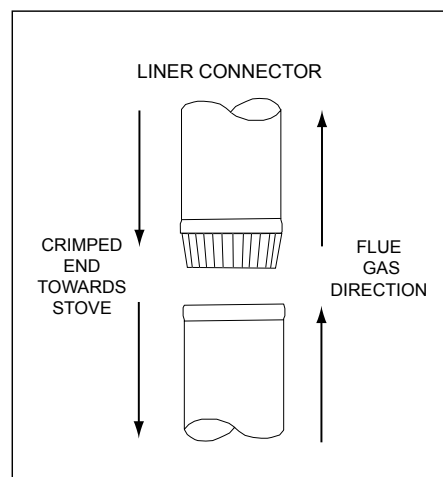

Figure 5B
**BEST:** A complete relining of the chimney system with a 6 inch (152mm) diameter listed, stainless liner. Required for factory-built fireplace installations in Canada, recommended in USA. The sections must be attached to the insert and to each other with the crimped (male) end pointing toward the insert. See **Figure 5B**. All joints, including the connection at the flue collar, should be secured with three sheet metal screws. Make sure to follow the minimum clearances to combustibles as set out on **page 4** of the manual.